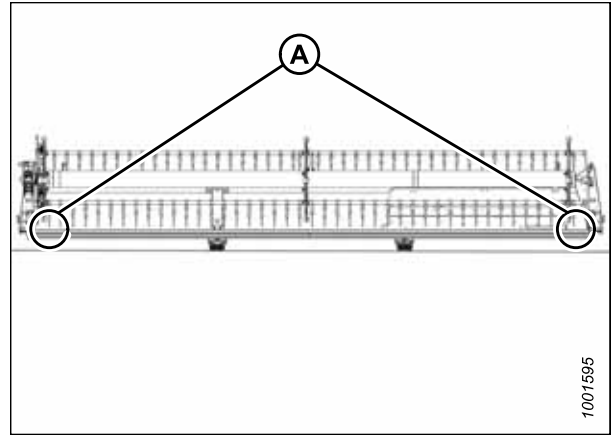

Figure 4.264: FlexDraper® Measurement Locations – Single Reel
- Single-reel headers: Figure 4.264, page 723